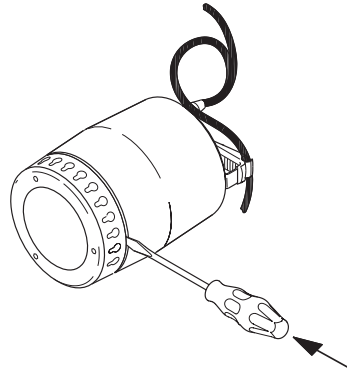

Fig. 11
3. Carefully loosen the suction strainer by inserting a screwdriver in the recess between the outer casing and the strainer and pressing it hard. Repeat the procedure until the strainer is free and can be removed, see fig. 11.